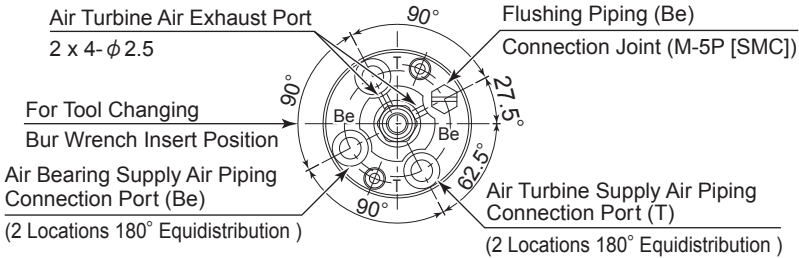

Fig. 9 Marking of the Piping Connection Section
- Ensure the air piping connections are correctly connected as instructed in this manual (Refer to Fig. 9).
Securely connect the air supply piping, referring to " Fig. 9 Marking of the Piping Connection Section " section.